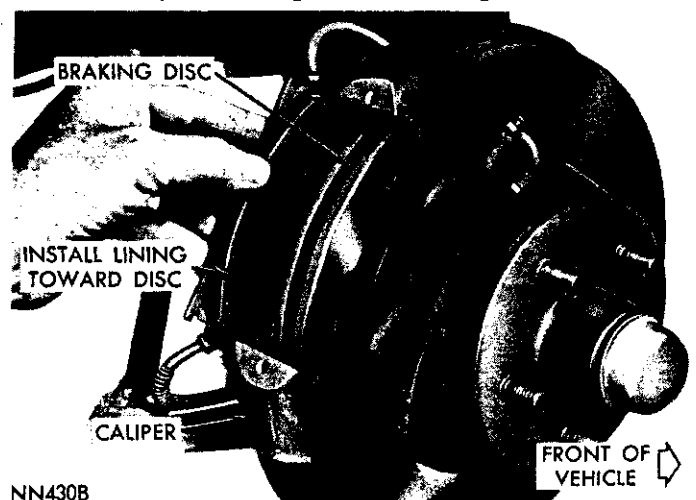

Fig. 7—Installing Brake Shoes and Lining
(1) Push all pistons back into their bores until bottomed to allow for installation of new thick shoes. This can be done by placing a flat sided metal bar or tool against piston and exerting a steady force until bottomed. This will cause fluid to rise in the reservoir so be sure and remove a quantity of fluid from the reservoir before hand.
(2) Slide new shoe and lining into caliper with ears of shoe resting on bridges of caliper (Fig. 7). Be sure